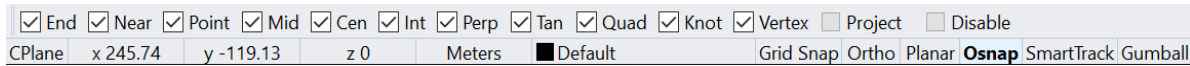

Figure 36: Rhino status bar.
- Click on **Osnap** (Object Snap) at the bottom of the screen (Figure 36) to highlight it. Make sure that all checkboxes designating what to snap to are checked, as shown in Figure 36. **Grid Snap** may be turned off.